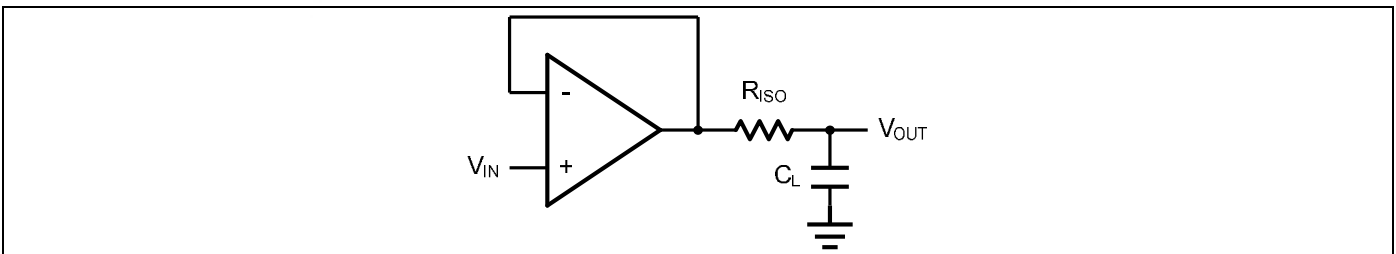
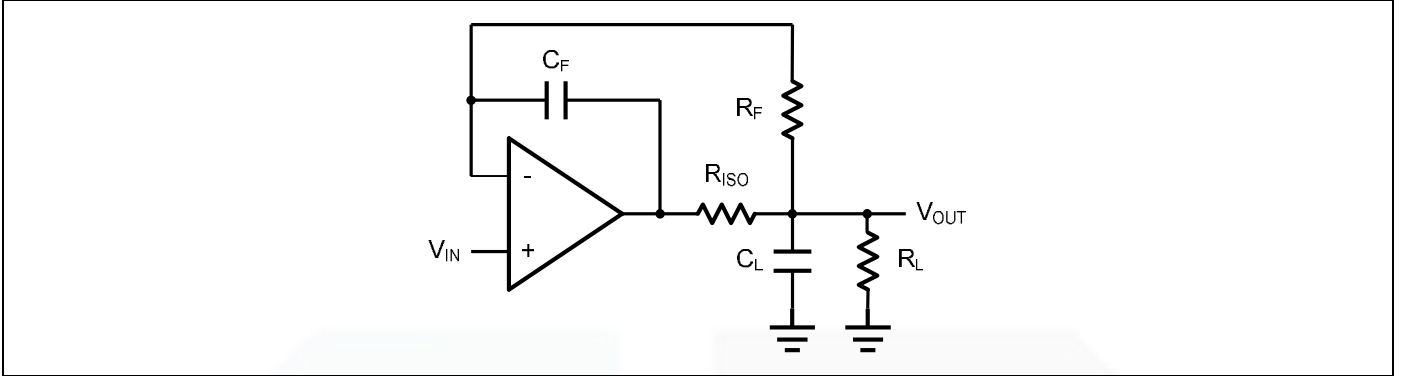

Figure 2. Indirectly Driving a Capacitive Load Using Isolation Resistor
Figure 3. Indirectly Driving a Capacitive Load with DC Accuracy
The GS8521 family is optimized for bandwidth and speed, not for driving capacitive loads. Output capacitance will create a pole in the amplifier's feedback path, leading to excessive peaking and potential oscillation. If dealing with load capacitance is a requirement of the application, the two strategies to consider are (1) using a small resistor in series with the amplifier's output and the load capacitance and (2) reducing the bandwidth of the amplifier's feedback loop by increasing the overall noise gain. Figure 2. shows a unity gain follower using the series resistor strategy. The resistor isolates the output from the capacitance and, more importantly, creates a zero in the feedback path that compensates for the pole created by the output capacitance.
The circuit in Figure 3 is an improvement to the one in Figure 2. R_F provides the DC accuracy by feed-forward the V_{IN} to R_L . C_F